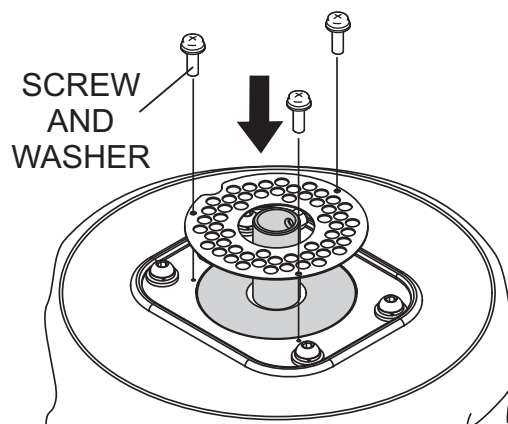

Figure 45. Filter/Plate Install
6. Using a small phillips-head screwdriver, reinstall the three screws/washers to secure the air plate to the lamp base (Figure 45).